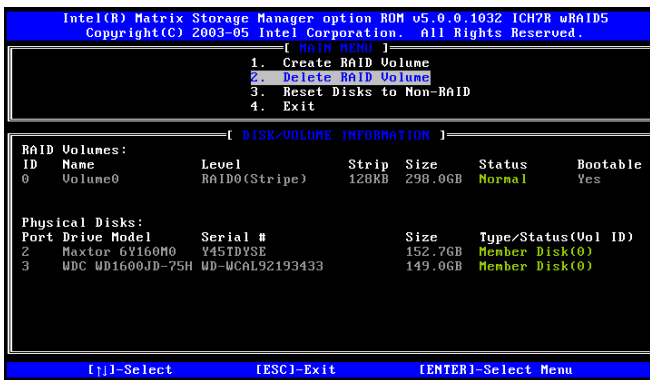

Figure E-8: Delete RAID Volume Menu
Step 1: Select "Delete RAID Volume." Use the arrow keys to highlight **Delete RAID Volume** and press **ENTER**. See Figure E-8.